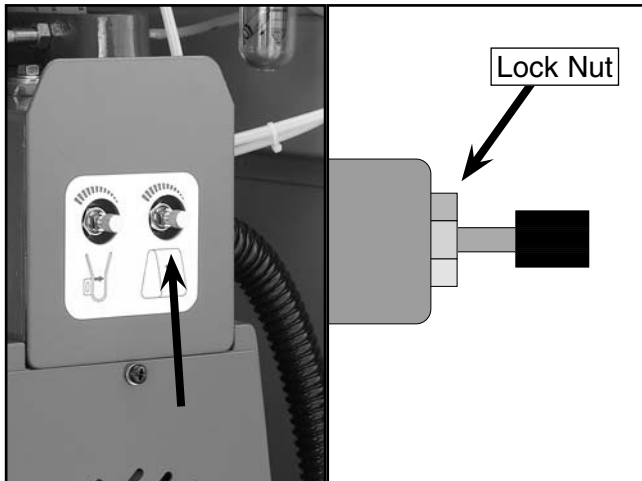

Figure 32. Speed control adjustment knob.
1. Loosen the lock nut on the speed control adjustment knob (**Figure 32**).